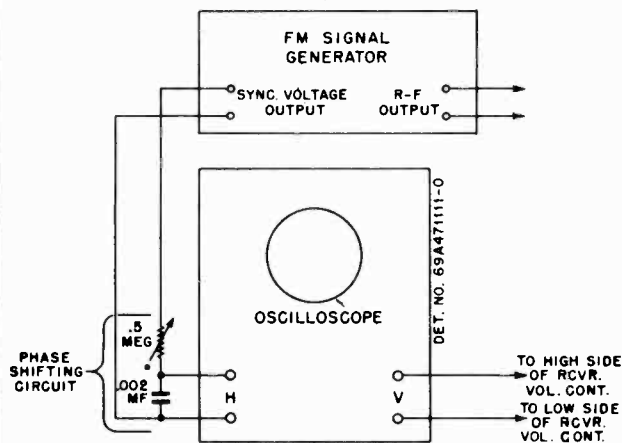
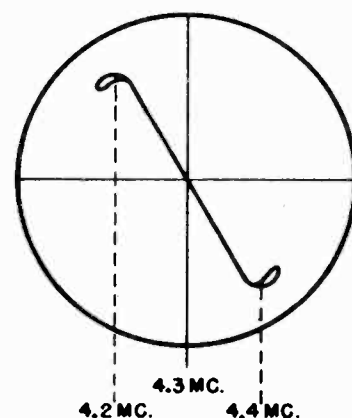

FIGURE 3. SIGNAL GENERATOR
FIGURE 4. OSCILLOSCOPE PATTERN
| 3.   | (A) Ratio Detector <ol style="list-style-type: none"> <li>1. Connect the input terminals of the oscilloscope vertical amplifier to the high side of the receiver volume control and common negative.</li> <li>2. Connect the FM generator synchronizing voltage output terminals to a phase shifting network, consisting of a variable 1/2 megohm resistor in series with a .002 mf capacitor. The input to the oscilloscope horizontal amplifier is connected across the .002 mf capacitor. See Figure 3 . (This phase shifting network may not work with every oscilloscope. Different values of R &amp; C may be required).</li> <li>3. Apply an FM 4.3 Mc signal (125 Kc deviation) through a .001 mf capacitor to the control grid (pin #1) of tube V-4 (6BA6) in the third FM IF Amplifier stage.</li> <li>4. Back out ratio detector transformer secondary core (7) several turns and then adjust ratio detector transformer primary (8) for maximum amplitude. The phase shifting network resistor is adjusted to give only one trace.</li> <li>5. Adjust ratio detector transformer secondary (7) until a symmetrical pattern is obtained, with peaks occurring at about 100 Kc above and below 4.3 Mc and is substantially linear between peaks. The trace should pass through the intersection of the vertical and horizontal axis. The phase shifting network should be adjusted to give only a single pattern at all times. See Figure 4 . It will be necessary to go over ratio detector transformer primary (8) and secondary (7) adjustments several times before a pattern of maximum amplitude and correct symmetry is obtained.</li> </ol> |